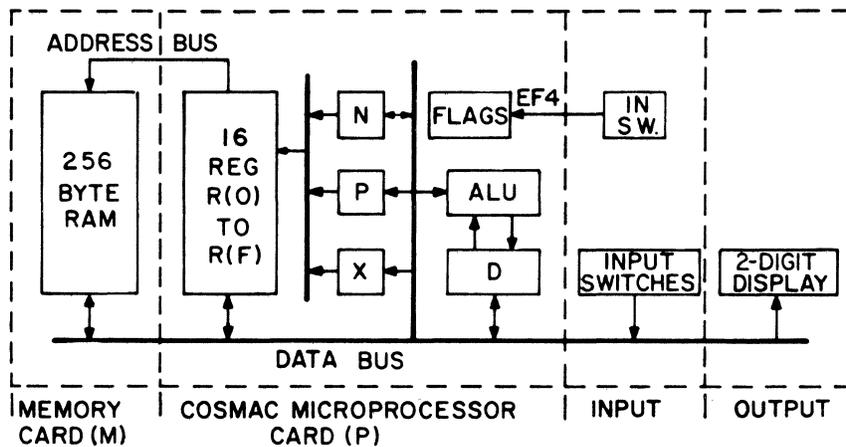

Fig. 2--MICROTUTOR Block Diagram.
The block diagram of MICROTUTOR, including the COSMAC microprocessor, is shown in Fig. 2. The data bus consists of eight lines, which run throughout MICROTUTOR, and provide the main information channel between its parts. The two-digit hex display provides output. Input comprises the eight input-byte switches and the IN button.
A simplified block diagram of the COSMAC microprocessor (on card (P)) is also indicated in Fig. 2. D is a special-purpose, one-byte register which has the function of temporarily holding a byte which is being moved through the processor or used for binary arithmetic or logical operations. The ALU (Arithmetic Logical Unit) operates on two bytes, one in D and the other directly from a memory location, and places the result back in D. COSMAC has four flags (EF1, EF2, EF3, and EF4) which can be used to control its operation. In MICROTUTOR, EF4 has been connected to the IN button.